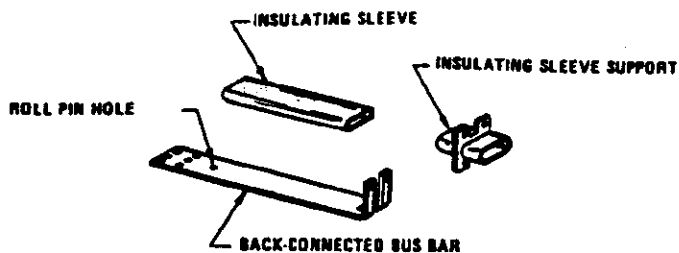
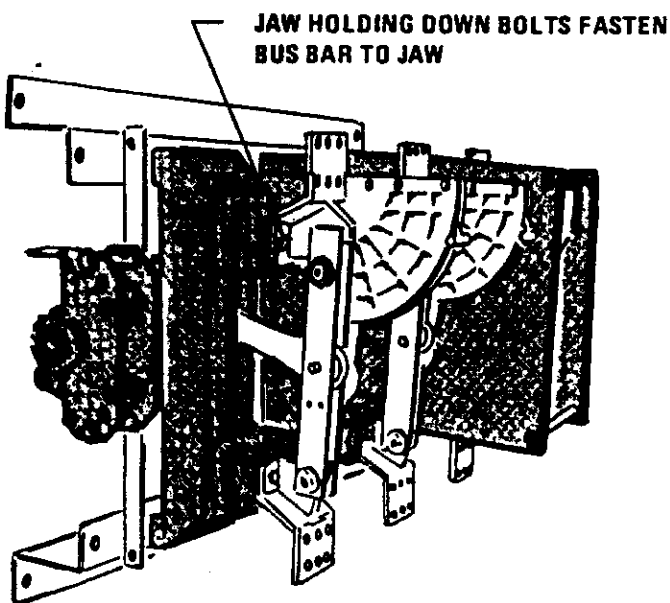
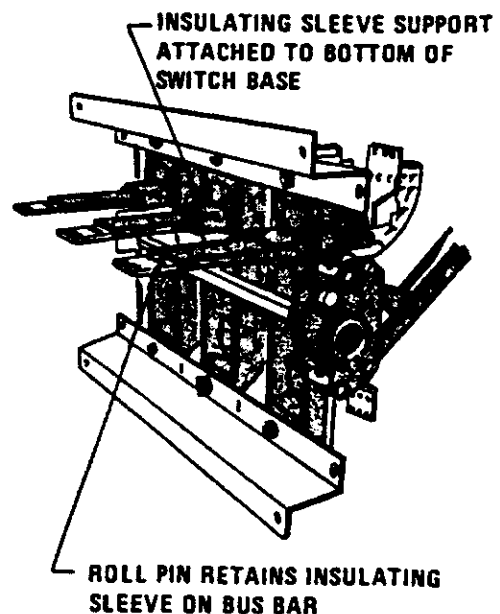

Fig. 17 Detail parts back-connected conversion kit
Fig. 18
Fig. 19
Back-connected bus bars may be added to the jaw end of the hinge end of the VersaSwitch by use of the back-connected conversion kit. A single-phase set of unassembled parts is shown in Fig 17 for identification purposes. Fig. 18 shows a 3-phase assembly and how the bus bar mounting legs hook over jaw base and are attached with longer holding-down bolts. Fig. 19 shows a rear view of a 3-phase jaw end assembly.
- d. From front end of switch, insert the back-connected bus bar into the base slot at the jaw (or hinge) as shown in Fig. 18. Note when assembling bus bar at hinge end of switch, it may be necessary to disconnect the blade connecting link at the back of switch on 15 kV or at base end on 5 kV, to obtain sufficient blade travel to clear the bus bar. This is accomplished by removing the Tru-arc ring from the 3/8" pin that fastens the connecting link to the shaft or base. (Replace after assembling bus).
- i. Assemble insulating sleeve support (shown in Fig. 17) over the insulating sleeve, sliding it along the sleeve until it rests against switch base, see Fig. 19.